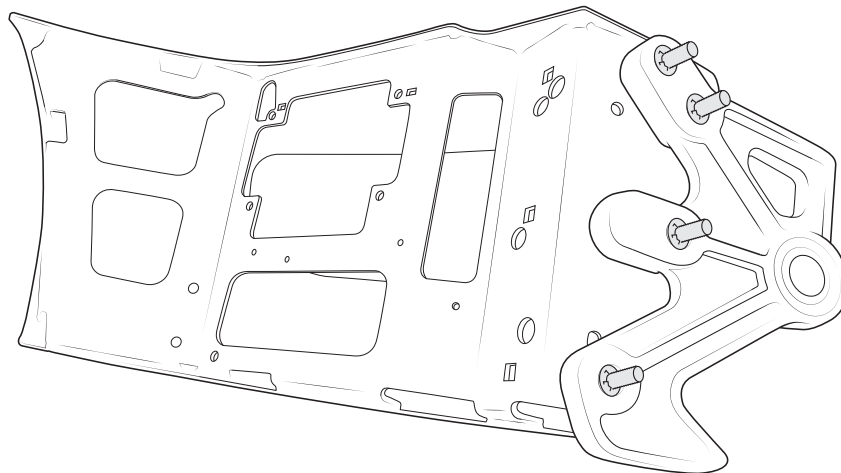

Figure 12
1. Assemble the tow loops and corners using M12x70 carriage bolts and push nuts as shown (fig.12).